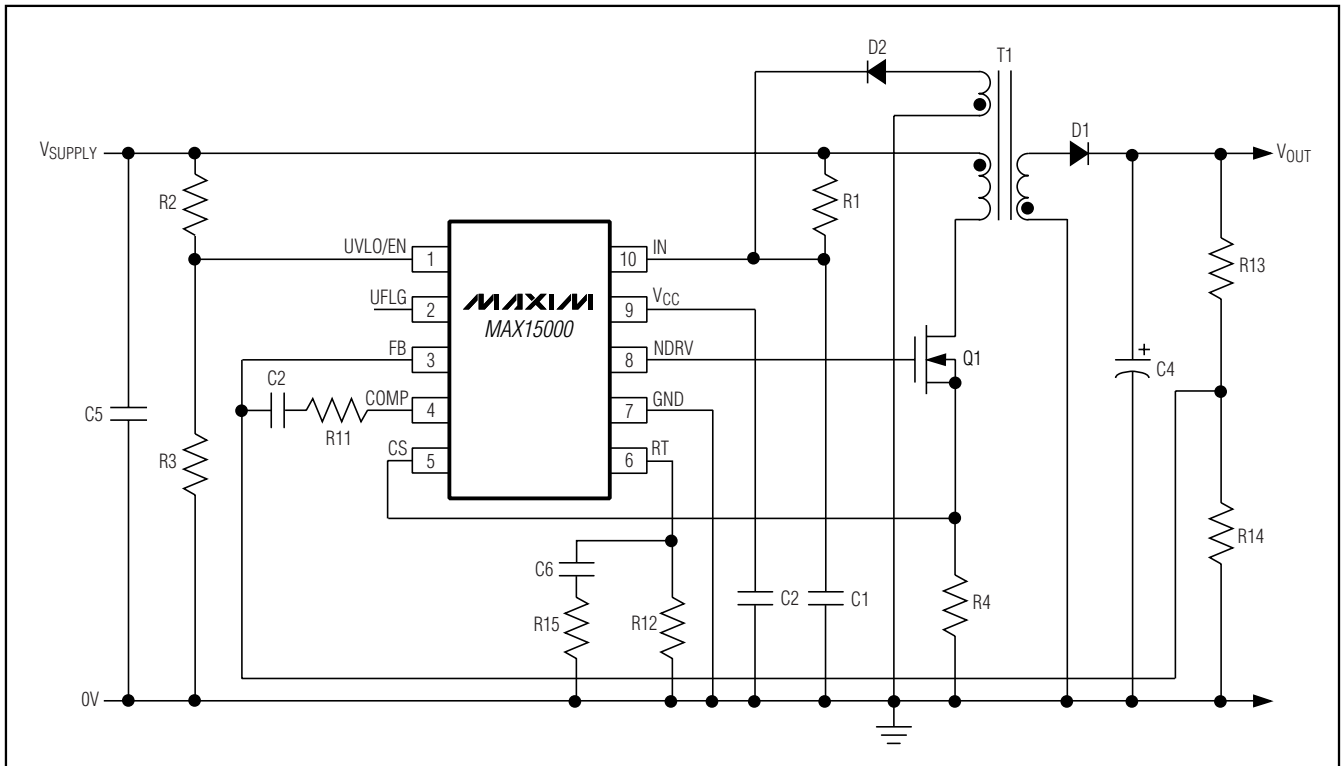
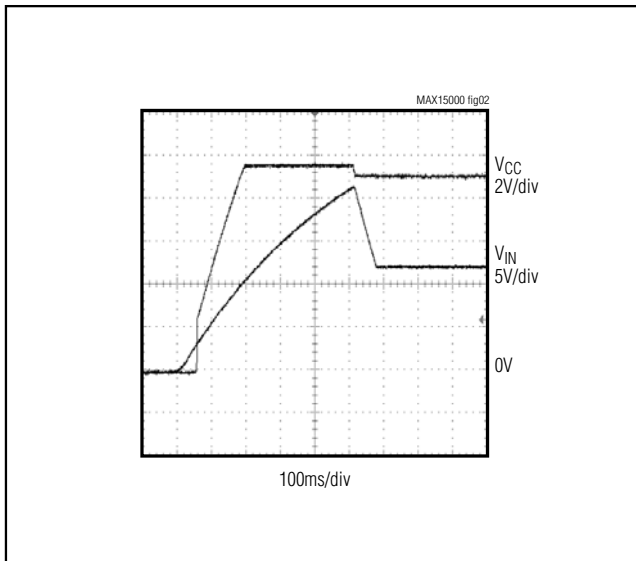

Figure 1. Nonisolated Power Supply with Programmable Input-Supply Start Voltage
Figure 2. V_{IN} and V_{CC} During Startup When Using the MAX15000 in Bootstrapped Mode (Figure 1)
- Note 2:** The MAX15000 is intended for use in universal input power supplies. The internal clamp circuit at IN is used to prevent the bootstrap capacitor (C1 in Figure 1) from charging to a voltage beyond the absolute maximum rating of the device when UVLO/EN is low (shutdown mode). Externally limit the maximum current to IN (hence to clamp) to 2mA maximum when UVLO/EN is low. Clamp currents higher than 2mA may result in a clamp voltage higher than 30V, thus exceeding the absolute maximum rating for IN. For the MAX15001, do not exceed the 24V maximum operating voltage of the device.
Characteristics table). The input is clamped when the devices are started with a bleed resistor (R1 in Figure 1) from a high input voltage and the UVLO/EN input is low. The clamp can safely sink up to 2mA current.
Power supplies designed with the MAX15000 use a high-value startup resistor R1 that charges a reservoir capacitor C1 (see Figure 1). During this initial period, while the voltage is less than the internal bootstrap UVLO threshold, the device typically consumes only 50µA of quiescent current. This low startup current and the large bootstrap UVLO hysteresis help to minimize the power dissipation across R1 even at the high end of the universal AC input voltage (265VAC).
Use this UVLO/EN input to program the input-supply start voltage. For example, a reasonable start voltage for a 36V to 72V telecom range is usually 34V. Calculate the resistor-divider values, R2 and R3 (see Figure 1) by using the following formulas:
For the MAX15000, the voltage at IN is normally derived from a tertiary winding of the transformer. However, at startup there is no energy being delivered through the transformer, hence, a special bootstrap sequence is required. Figure 2 shows the voltages at IN and V_{CC} during startup. Initially, both V_{IN} and V_{CC} are 0V. After the line voltage is applied, C1 charges through the startup resistor, R1, to an intermediate voltage. At this point, the internal regulator begins charging C2 (see Figure 1). Only 50 μ A of the current supplied through R1 is used by the MAX15000, the remaining input current charges C1 and C2. The charging of C2 stops when the V_{CC} voltage reaches approximately 9.5V, while the voltage across C1 continues rising until it reaches the wake-up level of 21.6V. Once V_{IN} exceeds the bootstrap UVLO threshold, NDRV begins switching the MOSFET and transfers energy to the secondary and tertiary outputs. If the voltage on the tertiary output builds to higher than 9.74V (the bootstrap UVLO lower
The MAX15000A/MAX15001A and MAX15000B/MAX15001B have programmable output switching frequencies from 25kHz to 625kHz and 12.5kHz to 625kHz, respectively. Use the following formulas to determine the appropriate value of the resistor R_{12} (see Figure 1) needed to generate the desired output switching frequency (f_{sw}) at the NDRV output:
where R_{12} is the resistor connected from R_T to GND (see Figure 1).
Connect an RC network in parallel with R_{12} as shown in Figure 1. The RC network should consist of a 100nF capacitor C_6 (for stability) in series with resistor R_{15} which serves to further minimize jitter. Use the following formula to determine the value of R_{15} :
The MAX15000/MAX15001 include an internal error amplifier to regulate the output voltage in the case of a nonisolated power supply (see Figure 1). For the circuit in Figure 1, calculate the output voltage using the following equation:
The current-sense resistor (R4 in Figure 1), connected between the source of the MOSFET and ground, sets the current limit. The current-limit comparator has a voltage trip level (V_{CS}) of 1V. Use the following equation to calculate the value of R4:
The bypass capacitor at IN, C1, supplies current immediately after the MAX15000 wakes up (see Figure 1). The size of C1 and the connection configuration of the tertiary winding determine the number of cycles available for startup. Large values of C1 increase the startup time but also supply gate charge for more cycles during initial startup. If the value of C1 is too small, V_{IN} drops below 9.74V because NDRV does not have enough time to switch and build up sufficient voltage across the tertiary output which powers the device. The device goes back into UVLO and does not start. Use a low-leakage capacitor for C1 and C2.
The above startup method is applicable to a circuit similar to the one shown in Figure 1. In this circuit, the tertiary winding has the same phase as the output windings. Thus, the voltage on the tertiary winding at any given time is proportional to the output voltage and goes through the same soft-start period as the output voltage. The minimum discharge time of C1 from 21.6V to 9.74V must be greater than the soft-start time of 5.6ms.